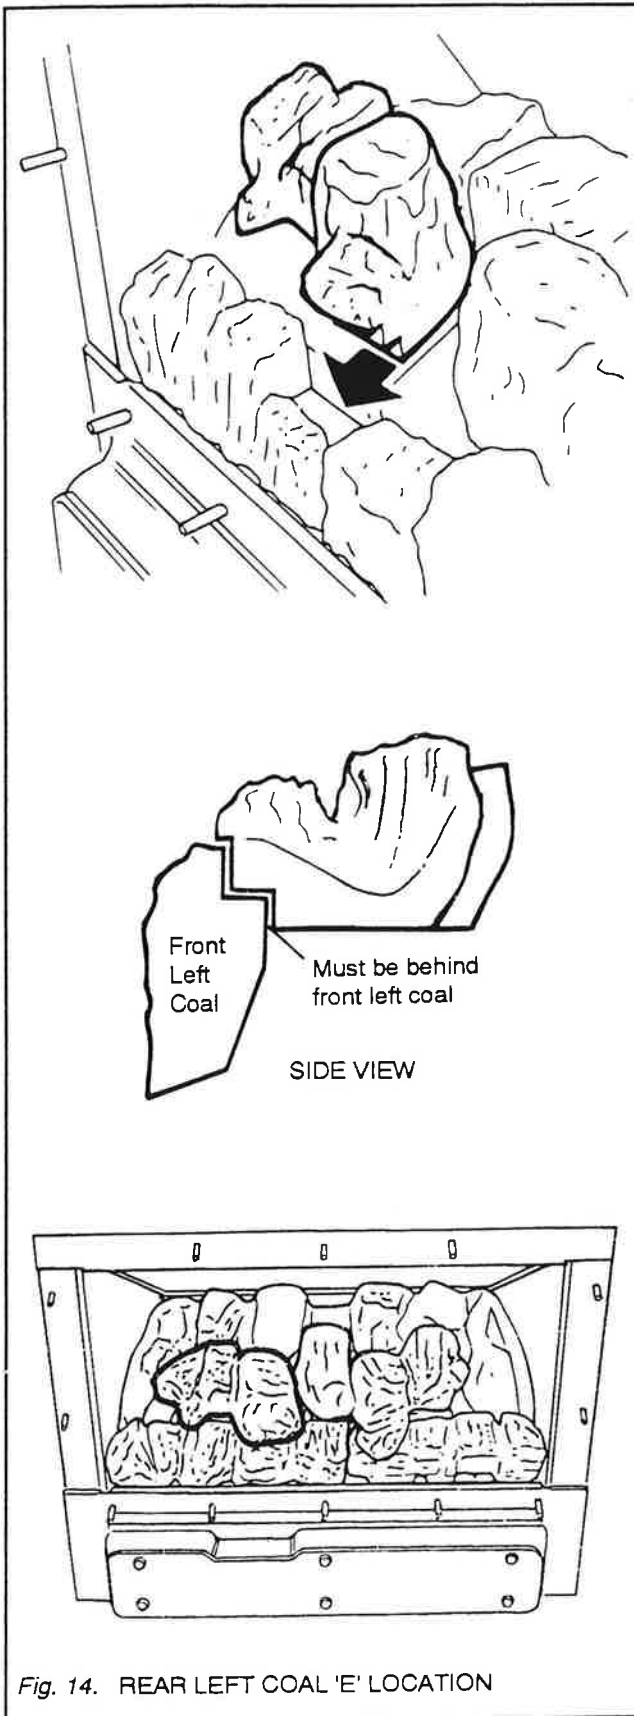

Fig. 14. REAR LEFT COAL 'E' LOCATION
- 10.6. Place the rear left coal (embossed 'E' underneath) in position as shown in figure 14.